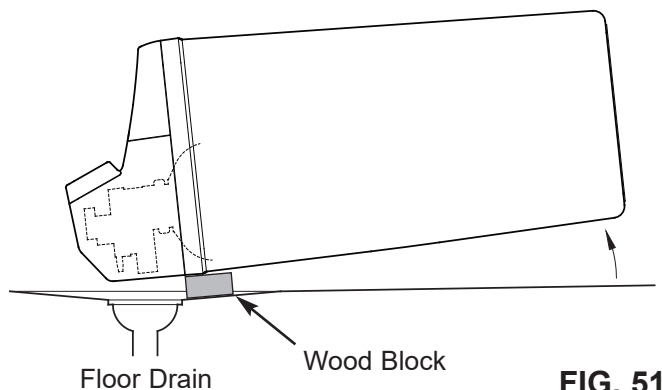

FIG. 51
6. Lay a piece of 2 inch thick board near the floor drain (See Figure 51).